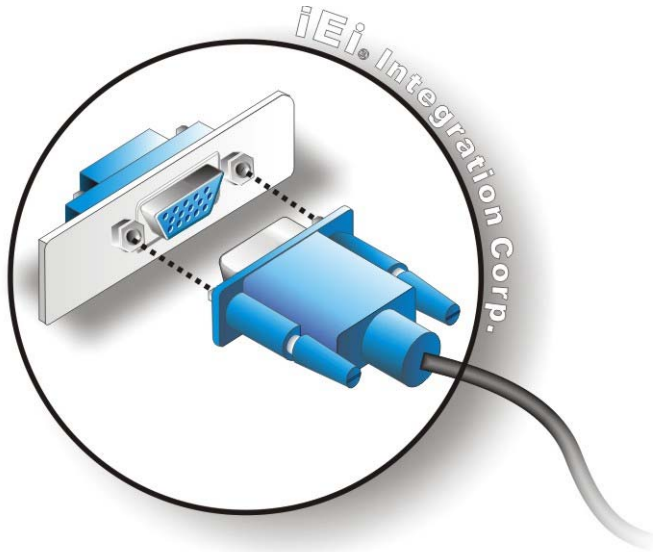

Figure 4-16: VGA Connector
Step 3: Insert the VGA connector Once the connectors are properly aligned, insert the male connector from the VGA screen into the female connector on the KINO-ABT-i2. See **Figure 4-16**.